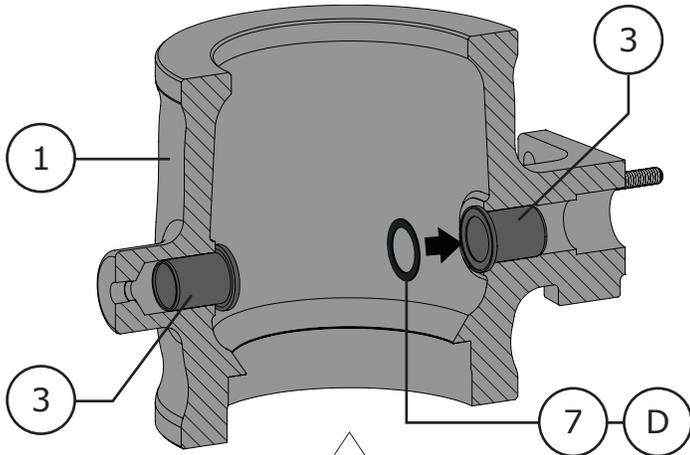

Figure 42 Thrust Washer Installation
- 1 Apply LOCTITE® 495 Instant Adhesive or equivalent (Key D) to the back side of the thrust washer (Key 7) if applicable. Insert the thrust washer into the thrust washer groove of the inboard bearing (Key 3) so the adhesive will hold it in place, wait a few seconds for the adhesive to set. Refer to Figure 42 and THRUST WASHER WATER TEST on Page 25 for proper thrust washer orientation.